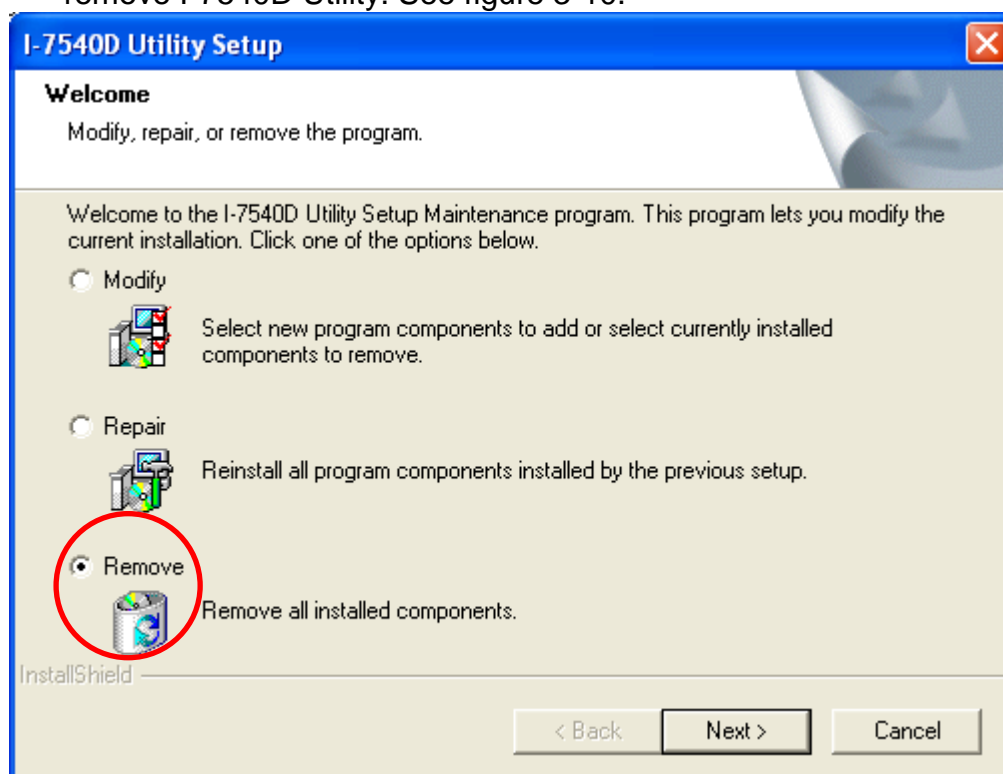

Figure 3-10: “Modify, repair, or remove the program” dialog
**Step 4:** Select the “Remove” option button, and press the “Next” button to remove I-7540D Utility. See figure 3-10.